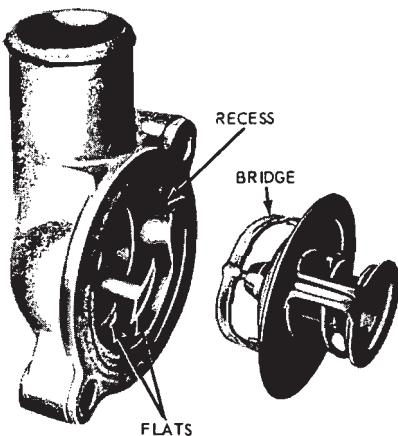

FIG. 2—Installing Thermostat—Typical
1. Clean the coolant outlet housing and cylinder head or manifold gasket surfaces. Coat a new gasket with water resistant sealer. Position the gasket on the cylinder head opening. **The gasket must be positioned on the cylinder head or the intake manifold, before the thermostat is installed.** To prevent incorrect installation of the thermostat, the water outlet casting on all engines contains a locking recess into which the thermostat is turned and locked. Install the thermostat with the bridge section (Fig. 2) in the outlet casting. Turn the thermostat clockwise to lock it in position on the flats cast into the outlet elbow.